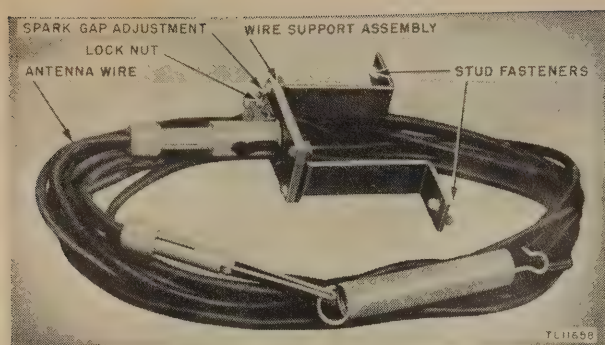

Figure 63. Antenna wire assembly.
- (1) Lay the telescoped section on the ground.
- (2) Insert the Allen wrench through the upper hole in the lower end of the outside (bottom) section. Turn the adjusting screw counterclockwise to free the top section from the center section.
- (3) Similarly insert the Allen wrench in the lower hole and free the center section from the bottom section.
- (4) Remove the antenna wire (fig. 63) from the antenna crate.